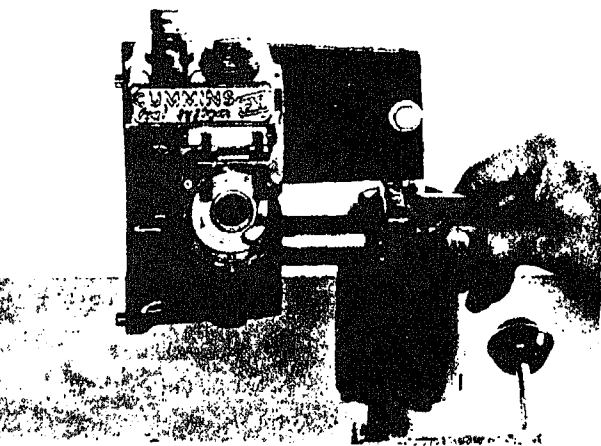

Fig. 501-16 Removing spring pack cover
5. Remove idle-spring plunger guide, idle spring or spring guide, idle spring plunger, and spring rest washer. Fig. 501-16.